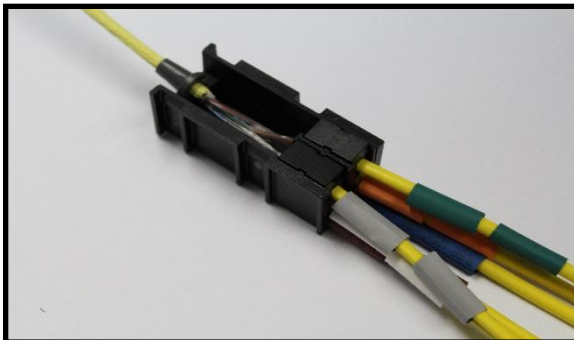

Figure 11
7.5 Install two Breakout Assembly Blanks into the Base Unit by placing each Blank on top of previously installed assemblies. **See Figure 11**